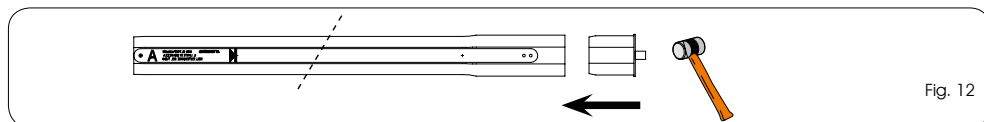

Fig. 12
The cap (Fig.1 ref.⑤) must be installed directly on the cap sleeve (Fig.1 ref.②). See figure12